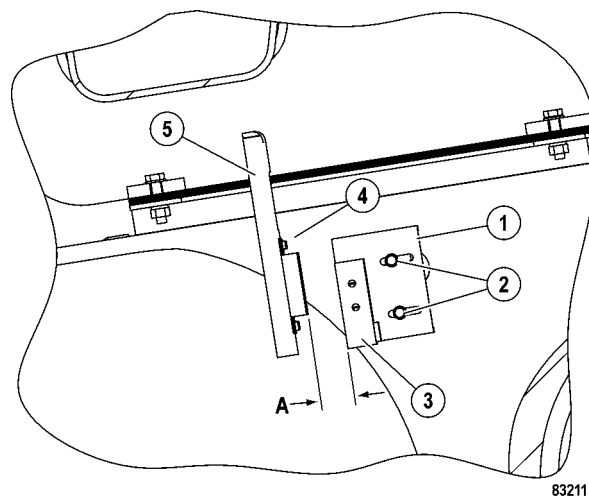

FIGURE 3-8. BODY-UP SWITCH
When the body is resting on the frame, actuator arm (4, Figure 3-8) or magnet assembly (6) causes the electrical contacts in magnetically-operated proximity switch (3) to close. When the body is raised, the actuator arm or magnet assembly moves away from the switch, opening the contacts. The electrical signal is sent to the control system and the body-up relay.